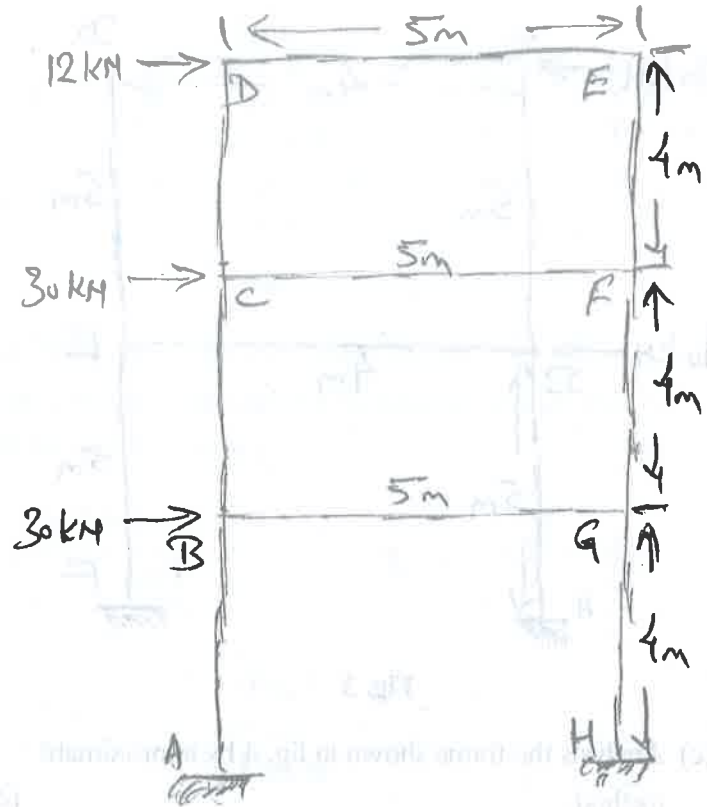

Fig. 4
- (c) Analysis the frame shown in fig. 4 by approximate method. 14